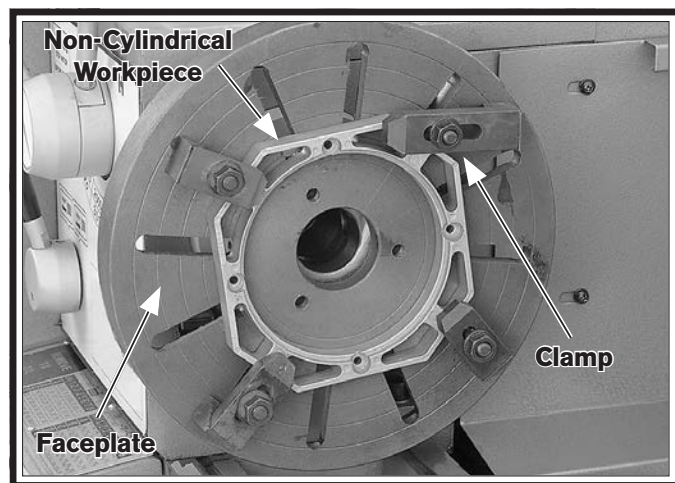

Figure 45. Example photo of workpiece clamped in a faceplate.
3. With the help from another person or a holding device to support the workpiece, position it onto the faceplate and clamp it in place with a minimum of three independent clamping devices (see **Figure 45** for an example).